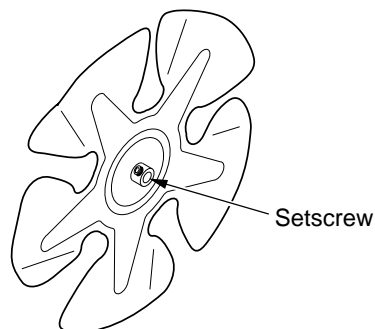

Figure 10 - Setscrew Location
3. Use hex wrench to loosen set screw which holds fan to motor shaft (see Figure 10). Remove fan. Be careful not to damage the fan blade pitch.
3. Use hex wrench to loosen set screw that holds fan to motor shaft (see Figure 10).